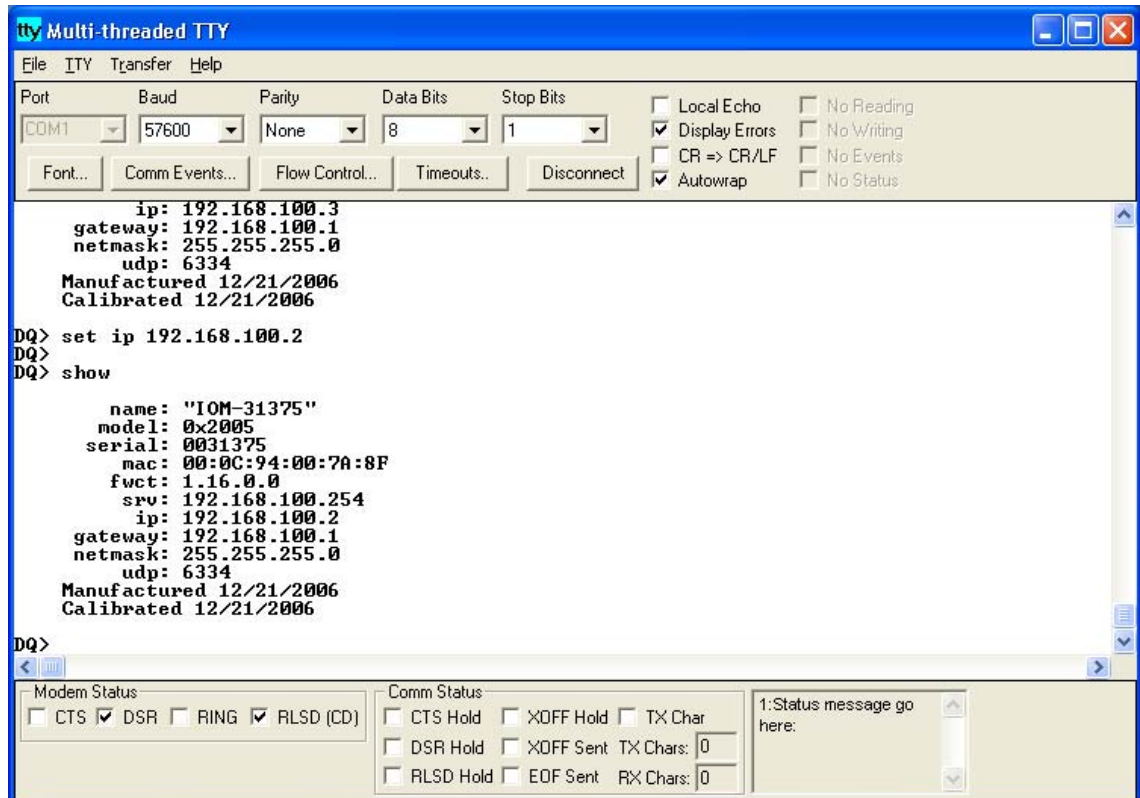

Figure 2-4. Changing IP Address with MTTY
2.3.1 Set IP Address **Figure 2-4** shows a typical MTTY screen with commands for changing the IP address of the Cube.
- STEP 1:** As shown in **Figure 2-4**, enter the command “set ip *ip*, where *ip* is the desired IP address.